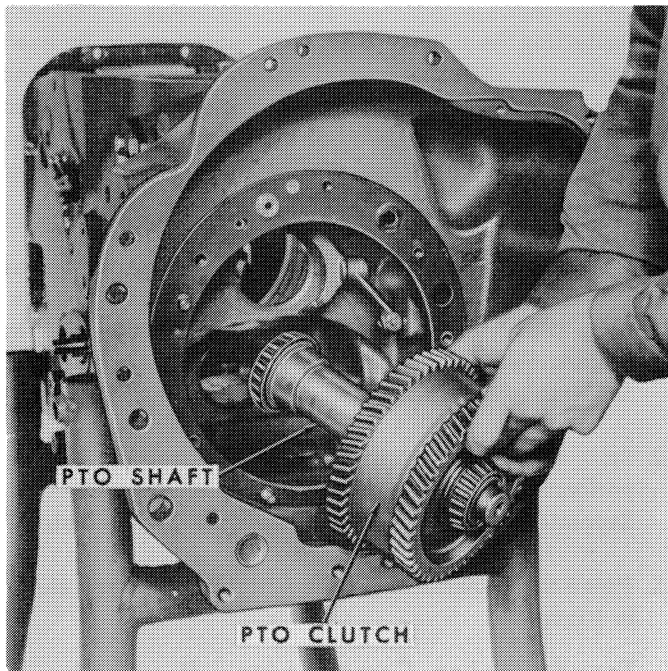

Figure 70
4. Remove the P.T.O. clutch and shaft by lifting the assembly out of the transmission, as shown in Figure 70.
5. Install the spacer and rear bearing adapter and bearing on the shaft and install the complete assembly in the transmission case. See Figure 70.